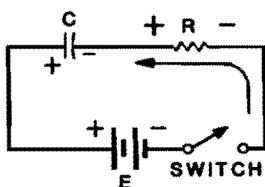

Figure 3-10 A series RC circuit.
Figure 3-10 shows a simple series resistor-capacitor (RC) circuit connected to a DC voltage source. With the switch open and the capacitor initially discharged, no current flows in the circuit. However, when the switch is closed, the capacitor starts to charge. Electrons from the negative terminal of the battery flow through the switch and the resistor to the right hand plate of the capacitor. Electrons are drawn from the left hand plate of the capacitor by the positive terminal of the battery, leav-
The series combination of resistance and capacitance shown in Figure 3-10 is a common configuration. There are many variations and applications for this simple circuit. The most important characteristic of this RC combination is the time that it takes to charge or discharge the capacitor. This time is referred to as the time constant, T . The time constant is the time it takes for a capacitor to charge to approximately 63.2% of the applied voltage.